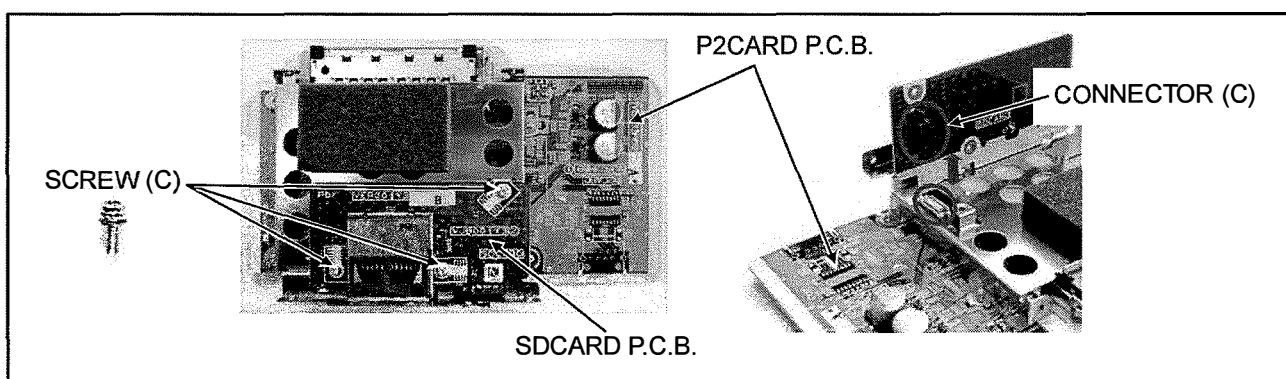

Figure 6-3
6. Unscrew the 3 screws (C) as shown in figure 6-3.
7. Disconnect the connector (C) combined with the P2CARD P.C.B. as shown in figure 6-3, and remove the SDCARD P.C.B. from P2CARD P.C.B..